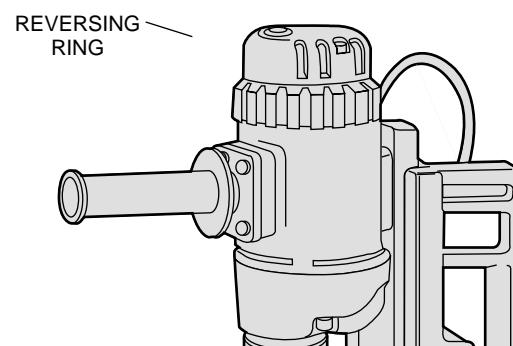

FIG. 3
2. (DW154, DW156) The motor switch is now aligned with a slot in the control handle, allowing the motor switch to be activated. Make sure reversing ring on top of motor is in the forward position. Figure 3. (On DW157 make sure reversing switch is in forward position).